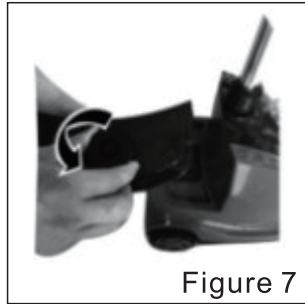
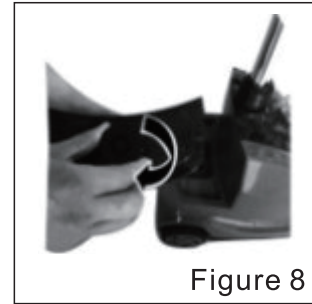

Figure 7
Figure 8
- ⑦ Screw the water tank knob anti-clockwise (Figure 7), inject clean cold water into the water tank, and tighten the water tank knob clockwise as shown in Figure 8.